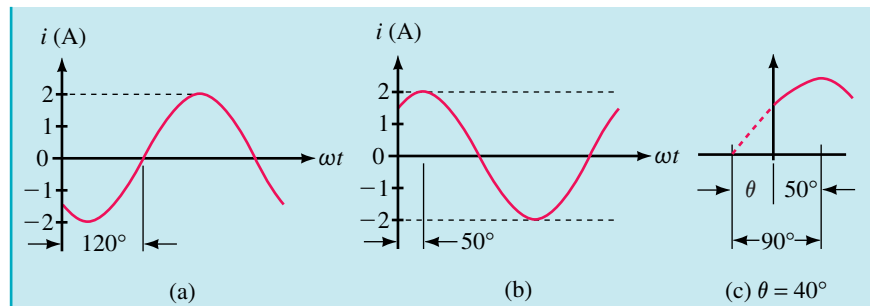

FIGURE 15-33
- Determine the equation for the waveform of Figure 15-33(a), given $f = 60$ Hz. Compute current at $t = 4$ ms.
- Repeat (a) for Figure 15-33(b).